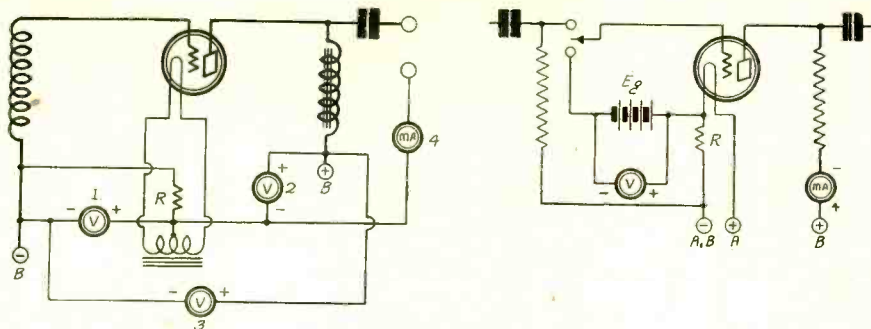

FIG. 750
(1)—See Fig. 750, left. Voltmeter 1 measures the grid bias, meter 2 measures the plate voltage, while meter 3 measures the sun. A high resistance meter must be used.
(2)—The right hand figure in Fig. 750 shows an arrangement for measuring the grid bias on a resistance coupled tube. Throw the grid to the upper point and note the reading on the plate milliammeter. Then throw the grid down to pick up the battery Eg. Adjust this battery until the plate milliammeter reads the same as it did before. The reading on the voltmeter across Eg is the bias sought.